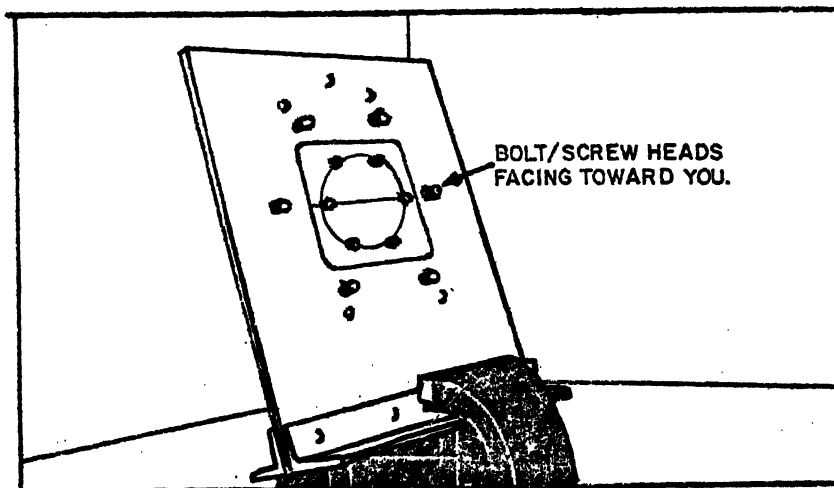

FIGURE 12
STEP 1: Reposition shop fixture in vise. Clamp fixture vertically in vise, with boltheads and screwheads facing you. See figure 12.